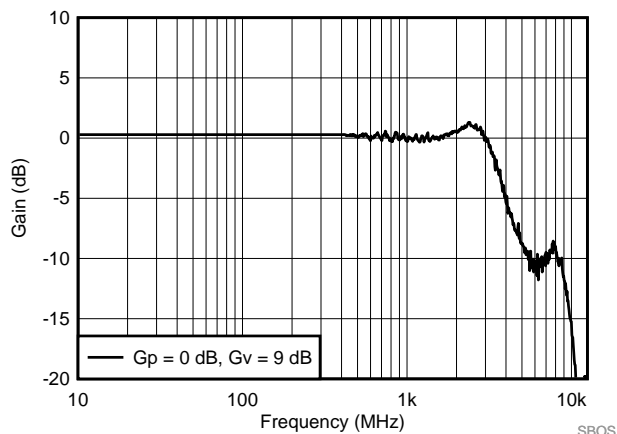

Figure 62. SE-DE Small Signal Frequency Response for Low Gain
Two types of gain are associated with amplifiers: noise gain (NG) and signal gain. Noise gain determines the stability of an amplifier. The noise gain is the inverse of the voltage divider from the outputs back to the differential inputs. This gain is calculated by  $NG = (R_F / R_{IN}) + 1$ . For the LMH5401-SP,  $NG > 4$  creates a stable circuit independent on how the signal gain is set. In Figure 61, for optimal performance choose  $R_F$  within the values noted in this document (see the Parameter Measurement Information section for further information). Using too large of a resistance in the feedback path adds noise and can possibly have a negative affect on bandwidth, depending on the parasitic capacitance of the board; too low of a resistance can load the output, thus affecting distortion performance. When low signal gain stability is needed, the noise gain can be altered with the addition of a resistor,  $R_{comp}$ . By manipulating the noise gain with this addition, the amplifier can be stabilized at lower signal gains. In Figure 61,  $R_S$  and  $R_{comp}$  in parallel combination also affects the noise gain of the amplifier.  $R_G$  and  $R_F$  are the main gain-setting resistors and the addition of  $R_{comp}$  adjusts the noise gain for stability. Much of this stability can be simulated using the LMH5401-SP TINA model, depending on the amplifier configuration. The example in Figure 61 uses the LMH5401-SP, a signal gain of 2.8 V/V, and a noise gain of 4.75 V/V resulting in the frequency response shown in Figure 62.